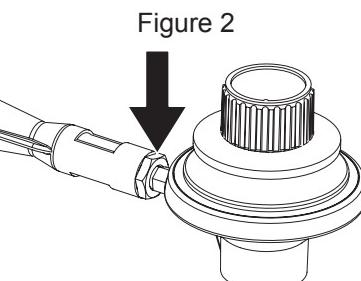

Figure 3
2. Make sure control knob is "OFF". (Figure 3)